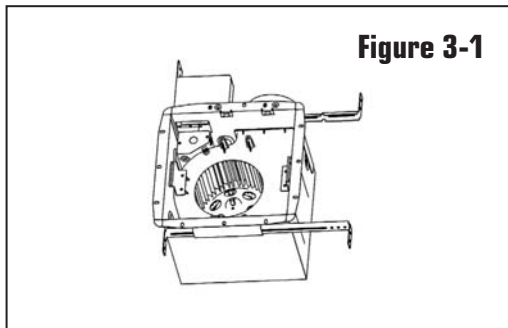
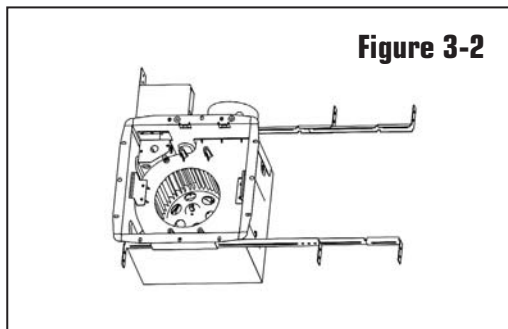

Figure 3-1
Figure 3-2
2. Remove the wire box cover and install the 3 brackets on the fan housing. (Figure. 3-1, Figure. 3-2).